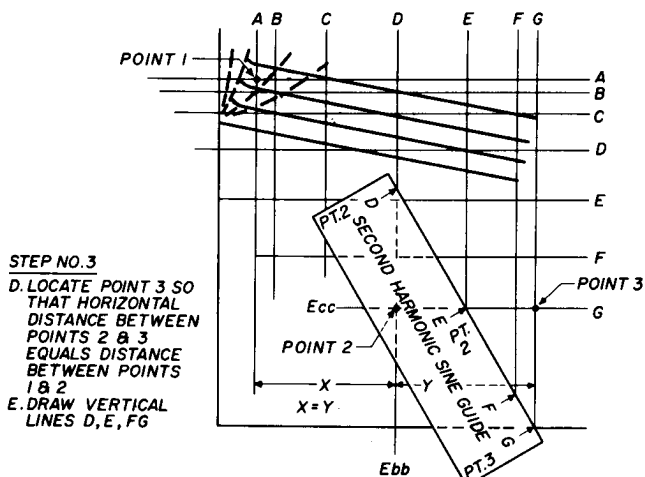

FIG. 5c
In order to draw lines E, F and G, we must first establish Point 3. Point 3 is located so that the horizontal distance between Points 2 and 3 on the constant current curves equals the horizontal distance between Points 1 and 2. Now, using the COMPUTA-GUIDE, draw vertical and parallel lines from Point 2 (D) on the COMPUTA-GUIDE to Point 2 on the constant current curves, and from Point 3 (G) on the COMPUTA-GUIDE to Point 3 on the constant current curves. The lines E and F may now be drawn. (See Figure 5C.)